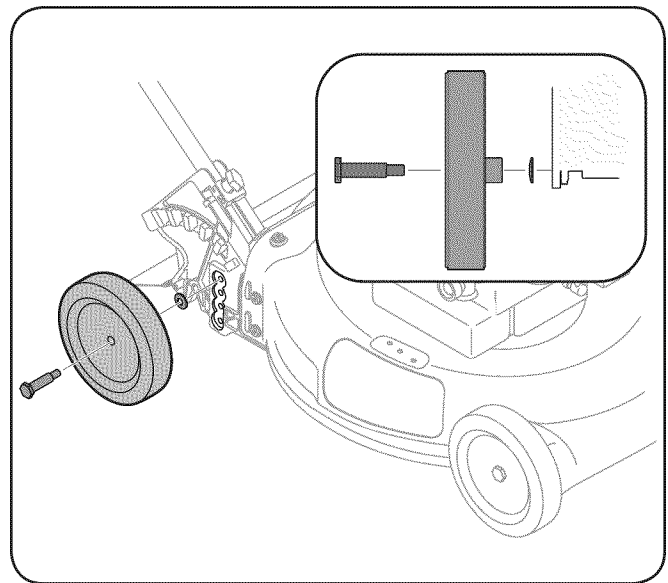

Figure 3-6
- Using bolts and washers from Group 1 of the hardware pack, secure the rear wheels to the deck as shown in Fig. 3-6. The washer should be installed with the crown side facing the wheel.